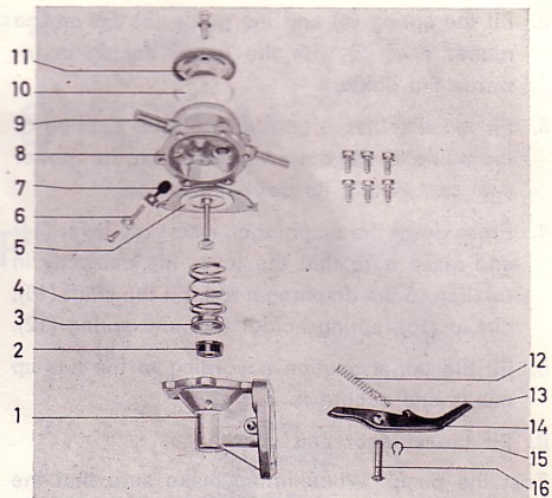

Fig. 121 Fuel pump, Pierburg
2. Remove a circlip (15, Fig. 121) from the lever shaft (16). Press out the shaft. Pull out the lever (14) and the spring (12).
3. Remove the diaphragm with spring (4), the guide (3) and the rubber seal (2). The spring can be removed after the rubber seal has been levered over the nylon washer.